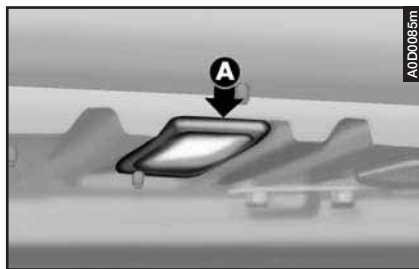

fig. 80
– Remove the light levering on point (A- fig. 80) with a screwdriver.